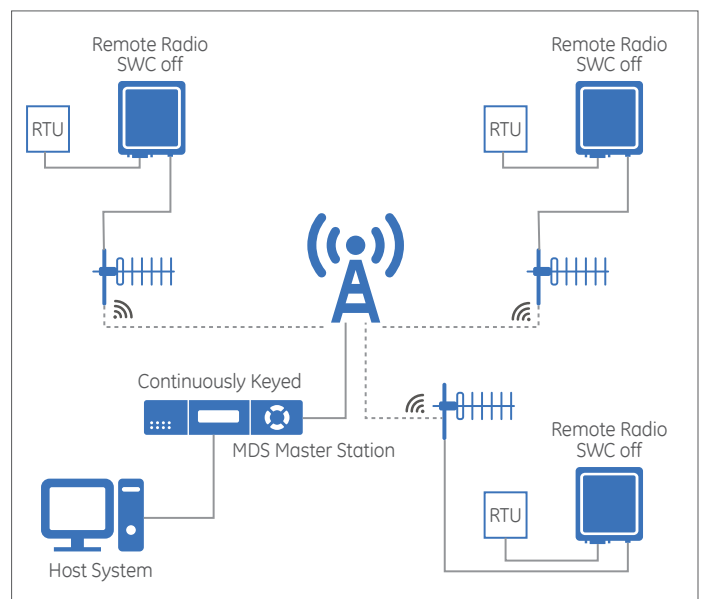

Figure 1: Typical MAS Point-to-Multipoint Network
The MDS x710 series represents a set of digital radio transceivers designed to operate in a point-to-multipoint environment, as shown in Figure 1. Examples include electric utility Supervisory Control and Data Acquisition (SCADA) and Distribution Automation (DA), Water/Wastewater SCADA, Oil and Gas field automation, as well as online transaction processing applications. These products use a combination of simple microprocessor and Digital Signal Processing (DSP) technology to provide reliable communications under adverse conditions.